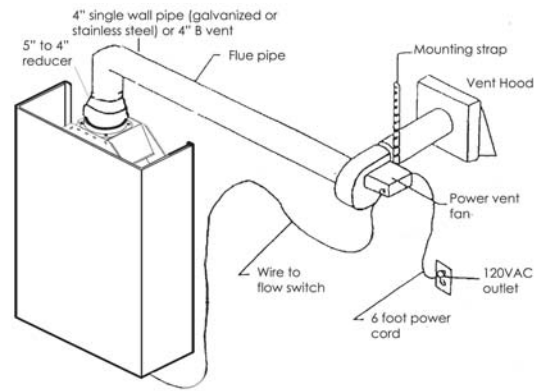

Fig. 5 Venting setup
1. Install 5" to 4" reducer pipe on top of the water heater and then connect a 4" 90° elbow to begin the horizontal run. Use 4" vent pipe to connect from this elbow to the power vent motor inlet, avoiding elbows wherever possible. The maximum vent length from the water heater to the point of termination is 25 feet. (Fig. 5) If using more than one 90° elbow, subtract 5 feet off the maximum vent length for each additional elbow used. **A maximum of three elbows is allowed. The minimum vent length is 2 ft.**